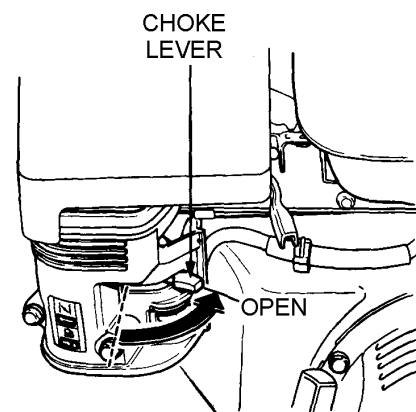

Figure 11. Engine Choke Lever (Open)
3. Place the **choke lever** (Figure 11) in the "OPEN" position if starting a **cold** engine.